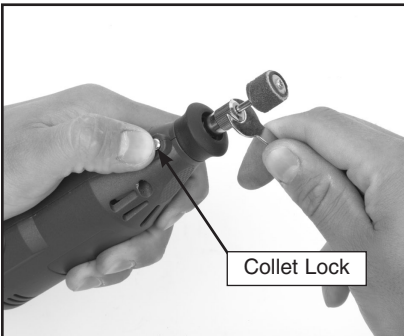

Figure 2. Collet lock
2. Depress the collet lock shown in **Figure 2** and loosen the collet nut. The collet lock will engage during rotation, preventing further rotation of the collet nut. *DO NOT completely remove the collet nut from the shaft.*